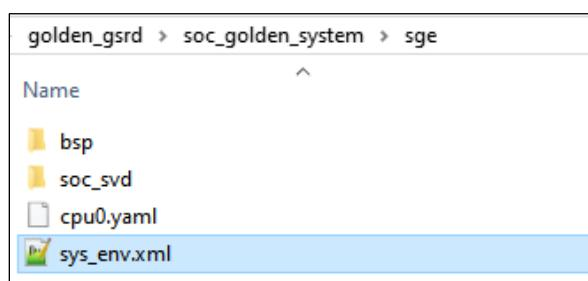

Figure 9.6. New sys_env.xml File Generated
7. Once validated and generated, it updates the **sys_env.xml** file in the **sge** folder under your project directory as shown in Figure 9.6.